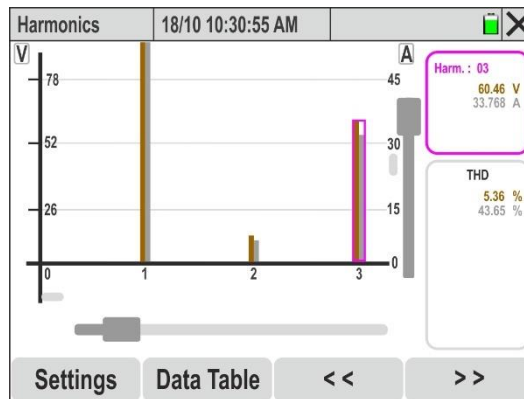

Fig. 57: Harmonic analysis of voltage and current for each phase
14. **When the voltage and current signals of each phase are selected**, the bar graphs of the pairs V1N&I1, V2N&I2, V3N&I3 or VNPE&IN are shown in Fig. 57